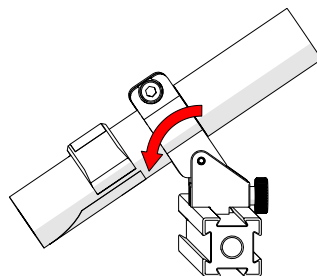

Fig. 277 - Aim guide
3. Adjust the optical guide's friction pivot to direct the laser beam as required (Fig. 277).